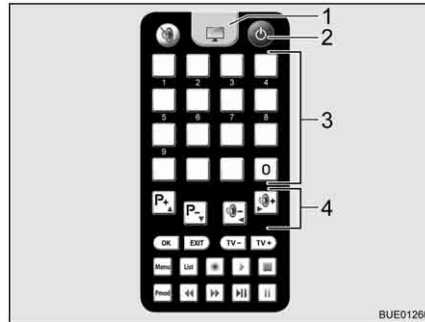

Fig. 32 Remote control
- Press the key "⏻" (Fig. 32,2) on the remote control. The satellite antenna repositions itself out of the park position and into search mode. When the unit finds the satellite, you will hear a signal tone.
- Use the memory buttons (Fig. 32,3) or the function buttons (Fig. 32,4) to set the required transmitter.